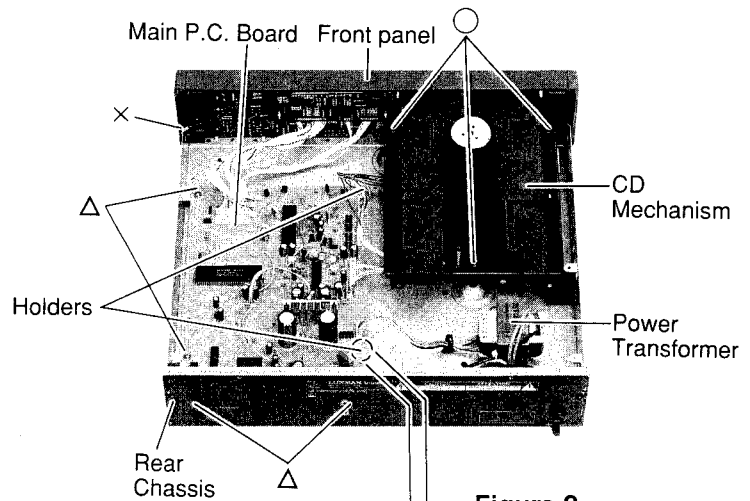
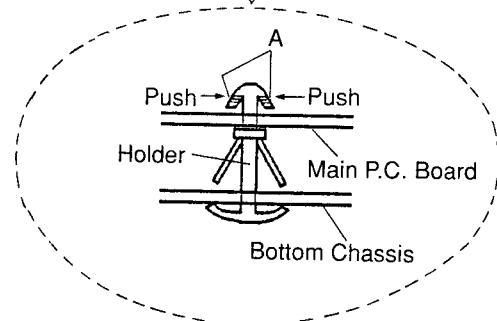

Figure 2
Figure 3
- (3) Remove three screws marked "○" as shown in Figure 2.
- (4) Disconnect all connectors from the CD Mechanism.
- (1) After removal of the tray panel, remove the front panel by disconnecting the all connectors from Main P.C.Board as shown in Figure 2.
- (2) Remove three screws marked "x" as shown in Figures 2 and 4.
- (1) After removal of the top cover, remove four screws marked "△" as shown in Figure 2.
- (2) Remove two holders from Main P.C.Board as shown in Figure 2, by pushing the point "A" as shown in Figure 3.
- (3) Disconnect all wires from Main P.C.Board.